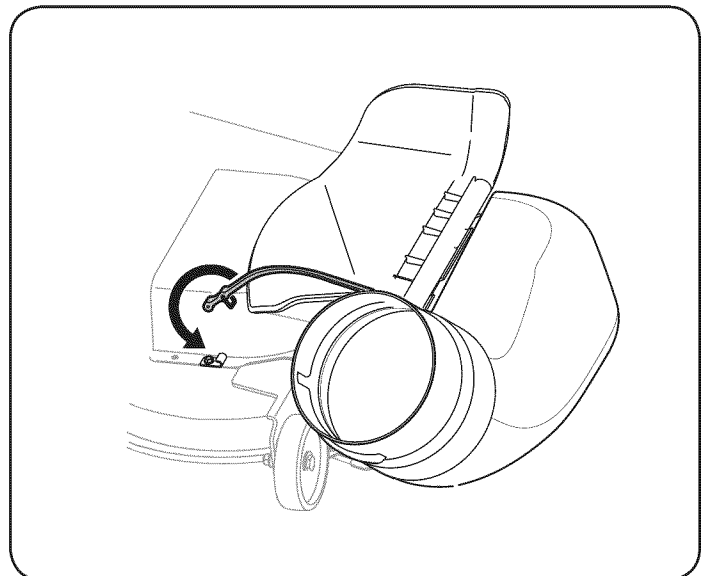

Figure 23
6. Attach the retainer strap on the discharge chute to the retainer clip on the deck. Refer to Fig. 23.